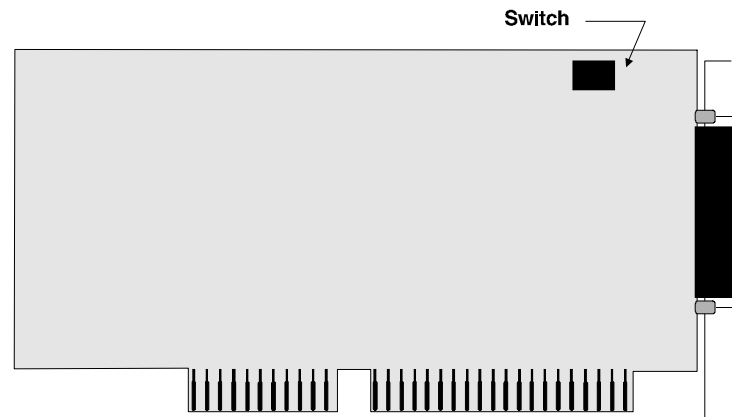

Figure 24. Xem ISA adapter
1. Set the I/O port address of the adapter to one of the following addresses using the DIP switch at the location indicated in Figure 24: